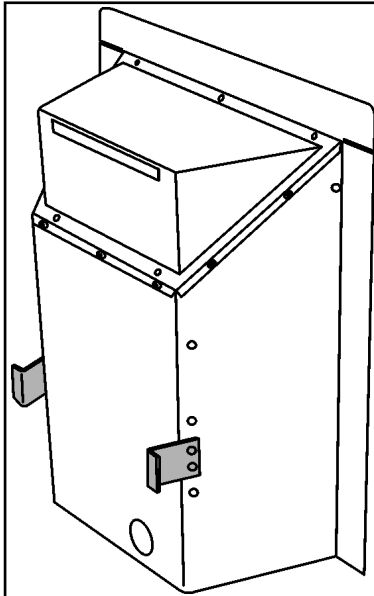

Figure 16. Fireback spacers.
7. **The appliance is supplied with two fireback spacers that must be fitted in all installations.** These should extend backwards to ensure sufficient clearance from the back of the fireplace. Position the fireback spacer as shown in figure 16. Secure the fireback spacer using the four tapping screws supplied with the fire.